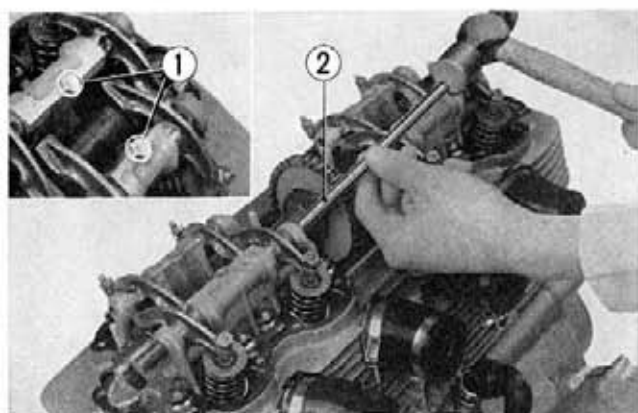

Fig. 3-25 ① Rocker arm shaft mounting bolts
5. Unscrew the two cam sprocket mounting bolts and then loosen the valve tappet adjusting screws. Unscrew the four rocker arm shaft mounting bolts and pull out the rocker arm shaft using the rocker arm shaft remover (Tool No. 07050-30001) being careful not to damage the holder. (Fig. 3-25)